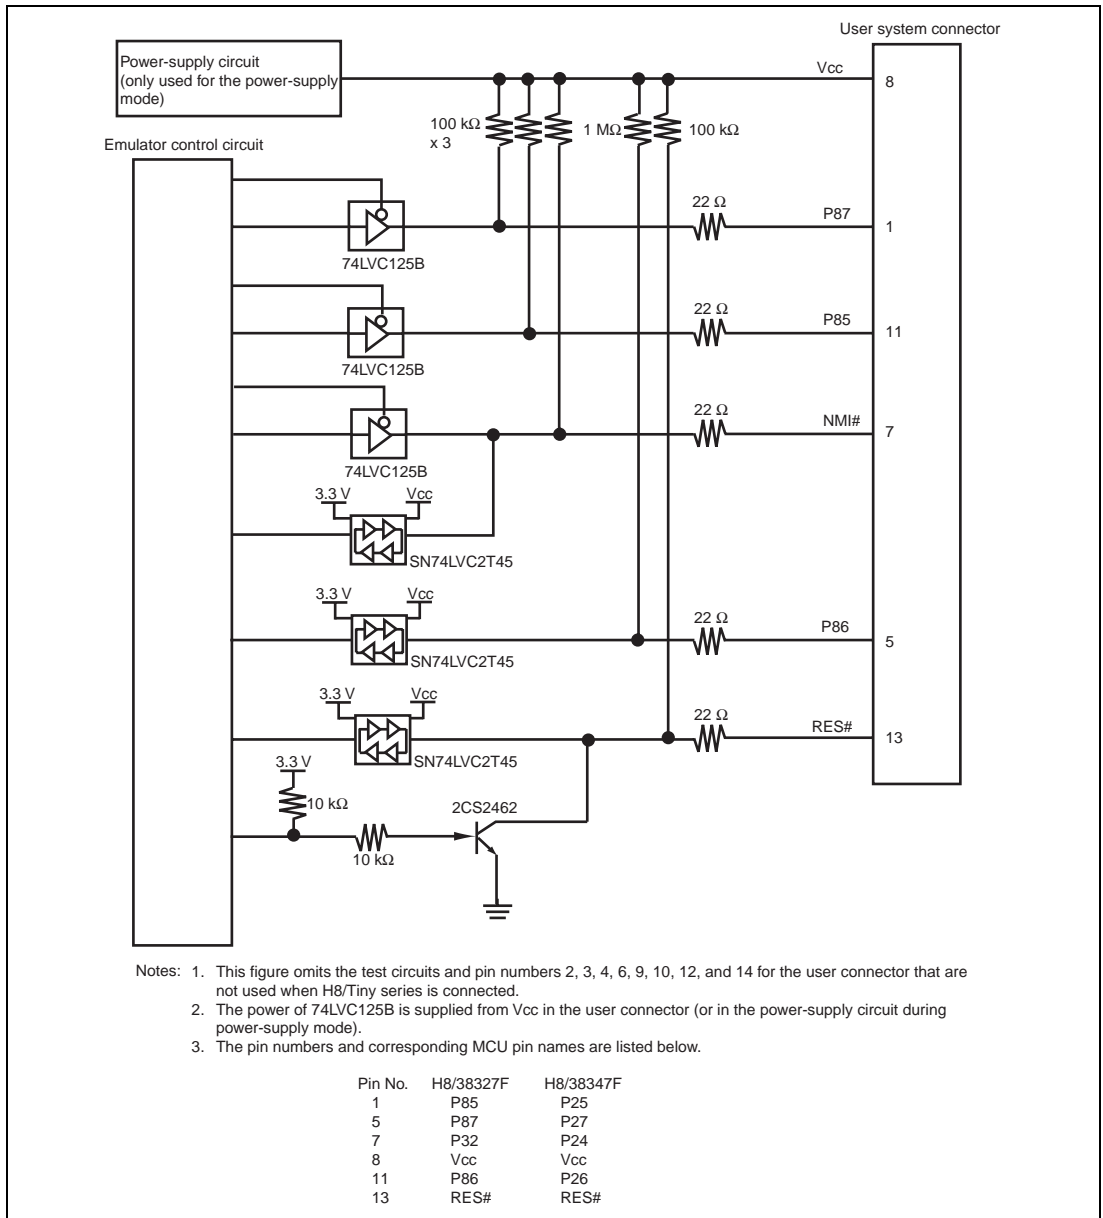

Figure 4.8 Interface Circuit in the E8a Emulator (Reference)
7. Figure 4.8 shows the interface circuit in the E8a emulator. Use this figure as a reference when determining the pull-up resistance value.